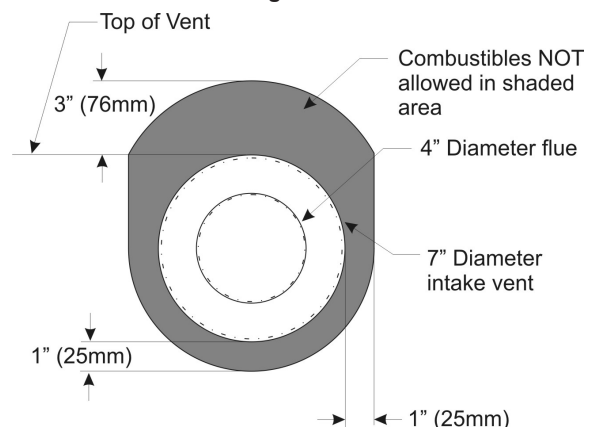

Figure 45
5. Install the Wall Firestop/Thimble assembly as required through the wall. Refer to the venting charts in the fireplace manual to determine the proper height and size of the vent opening. The minimum opening should be 9" wide by 11" high. The minimum combustible clearance from the horizontal vent is 1" from sides and bottom, and 3" above the vent pipe. **See Figure 45.**